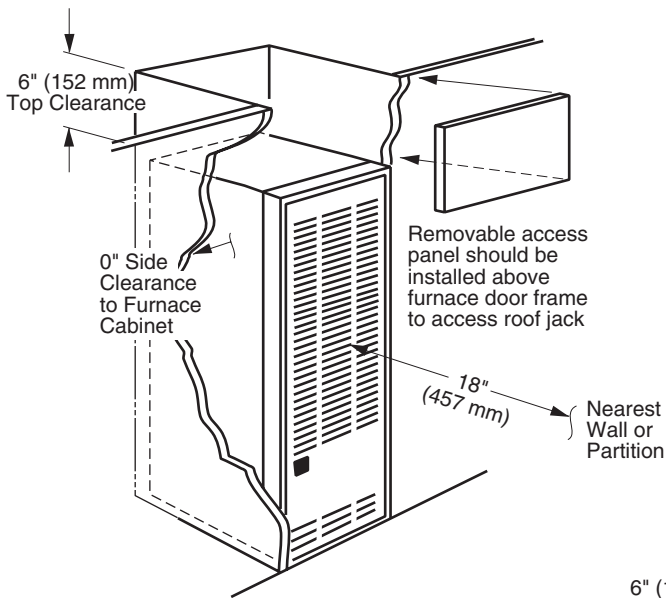
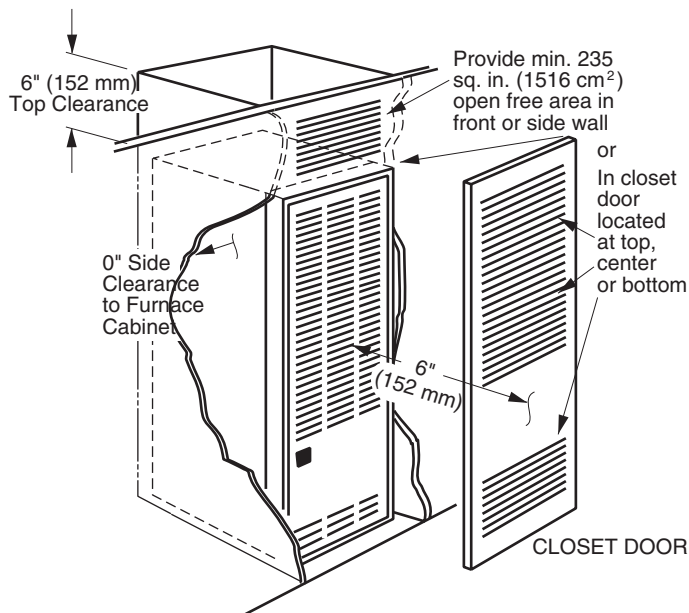
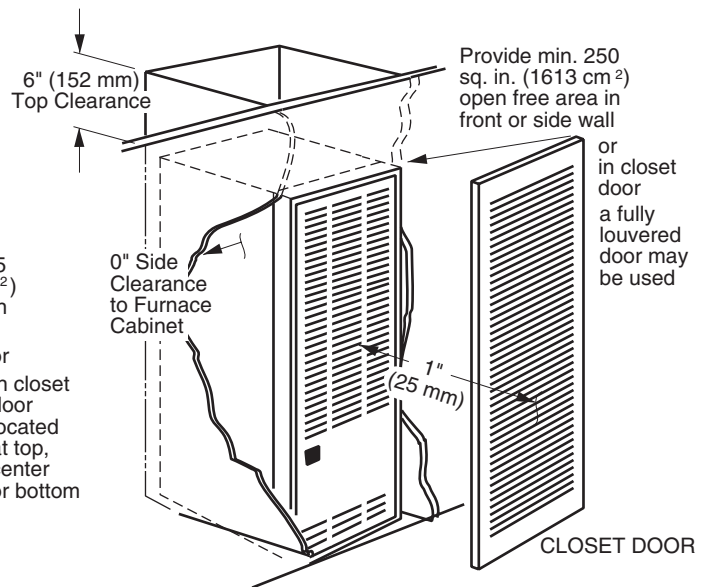

Figure 1. Alcove Installation
Figure 2. Closet Installation
Figure 3. Special 1" Clearance
This heating appliance must be installed with clearances not less than the minimums listed in Table 1, \(page 6\). This furnace must be installed with ample clearance for easy access to the air filter, blower assembly, burner assembly, controls, and vent connections. See Figure 1, Figure 2, and Figure 3.
- The dimensions of the room or alcove must be able to accommodate the overall size of the furnace and the installation clearances listed in Table 1, (page 6) and Figure 1 (page 5)